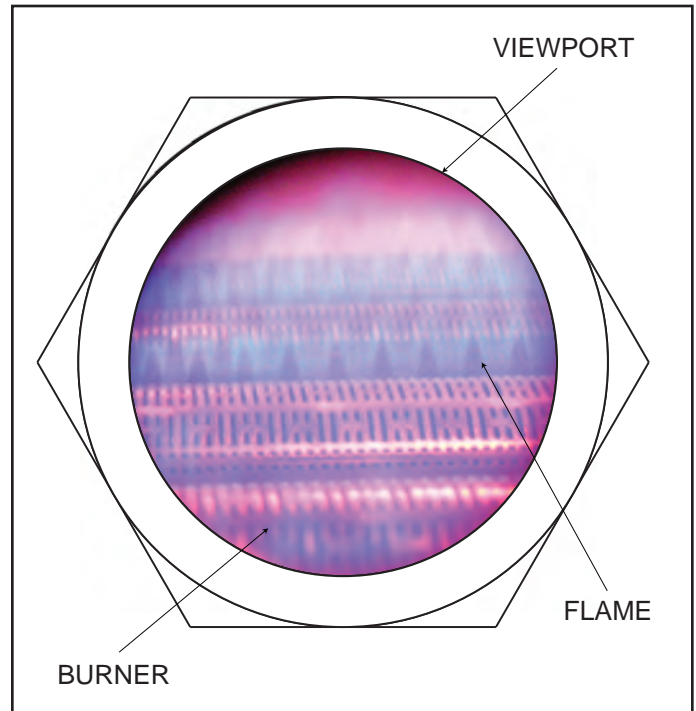

Figure 36. Flame View
12. Make a visual check of the main burner flame. The flame can be seen in a view port on the lower right side of the heater. The flame should be light blue in color and short, see Figure 36. If flame appearance is otherwise, adjustment is necessary as described in the following section.
**NOTE** After installation and first start-up, check the heat exchanger for black carbon soot buildup after the following periods of operation: 24 hours, seven (7) days, 30 days, 90 days and once every six (6) months thereafter.